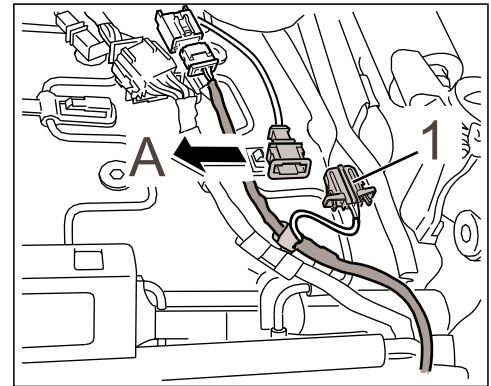

Figure 3
- 2.5 Release connector of ground strap from side airbag (⇒ *Figure 3-Item 1-*) and pull out of the socket.
- 2.6 Release the rear connector bracket on the seat suspension and pull off socket for the ground strap (⇒ *Figure 3-Arrow A-*).